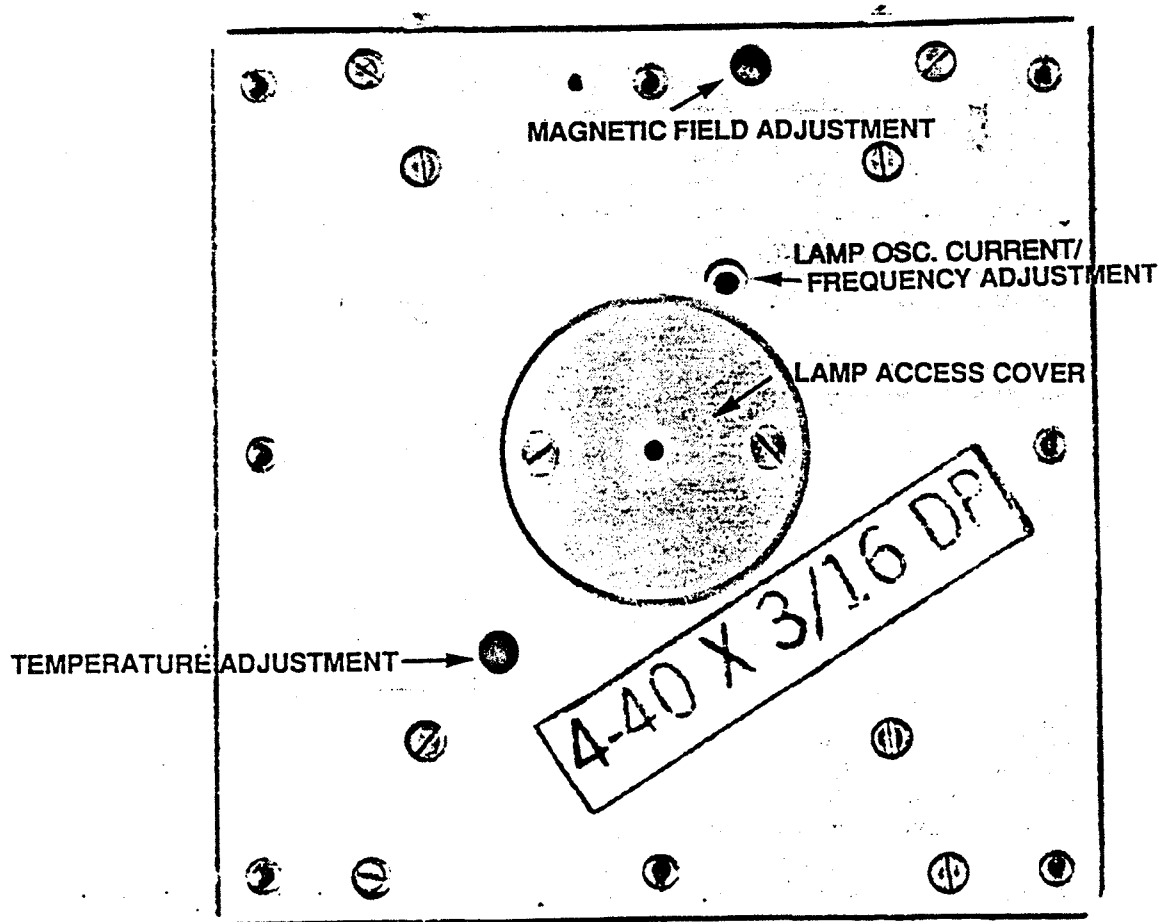

Figure 4-8. Lamp Adjustment Ports
Although this is seldom a cause for failure in the FRK (refer to 4.4.2.5 (2) for symptoms), the Rubidium lamp is replaceable. The Rubidium lamp is accessed by removing the two screws holding the Lamp Cover Plate to the baseplate (refer to Figure 4-8). A slotted access plate is beneath the cover plate. Once the access plate has been removed, the base of the lamp housing is visible.
Mechanical capacitor C11 provides for current/frequency adjustment of the oscillator and is accessible from outside the unit. Figure 4-8 illustrates the location of the adjustment port.